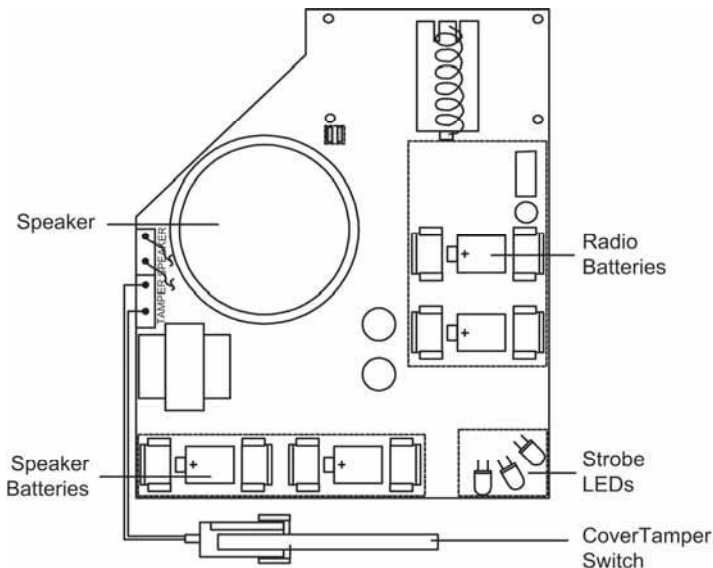

Figure 3-2: Inserting the batteries
5. Insert the batteries while paying attention to polarity (see Figure 3-2).
5. Open the Siren Strobe (see Figure 3-1) and take out the batteries (see Figure 3-2).